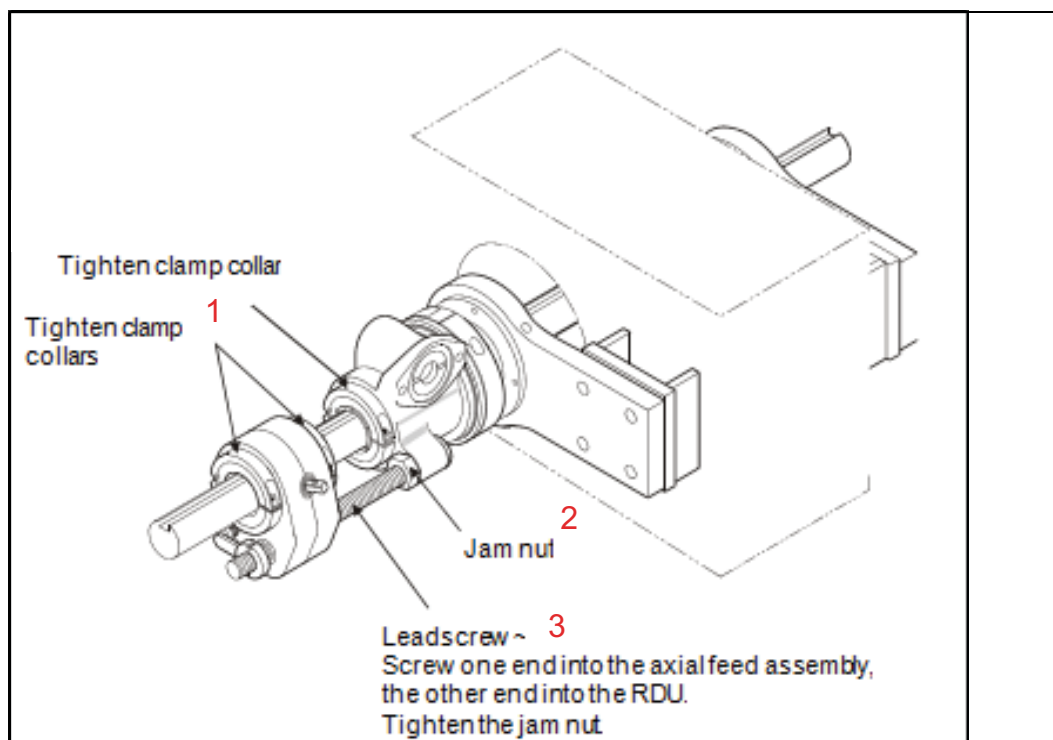

FIGURE 3-11. CLAMP COLLARS ON THE AFU
5. Tighten the clamp collar over the collet, as shown in Figure 3-11 on page 39. Turn the collar screw until the collar is snug, but the bar slides easily through the unit. In most boring applications, this collar can remain loose.